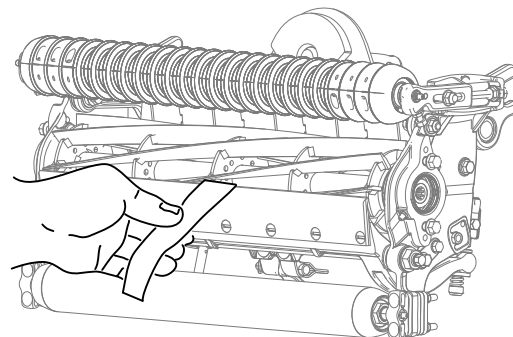

Figure 14
12. Test the cutting performance by inserting a long strip of Toro cutting performance paper between the reel and the bedknife, perpendicular to the bedknife (Figure 14).